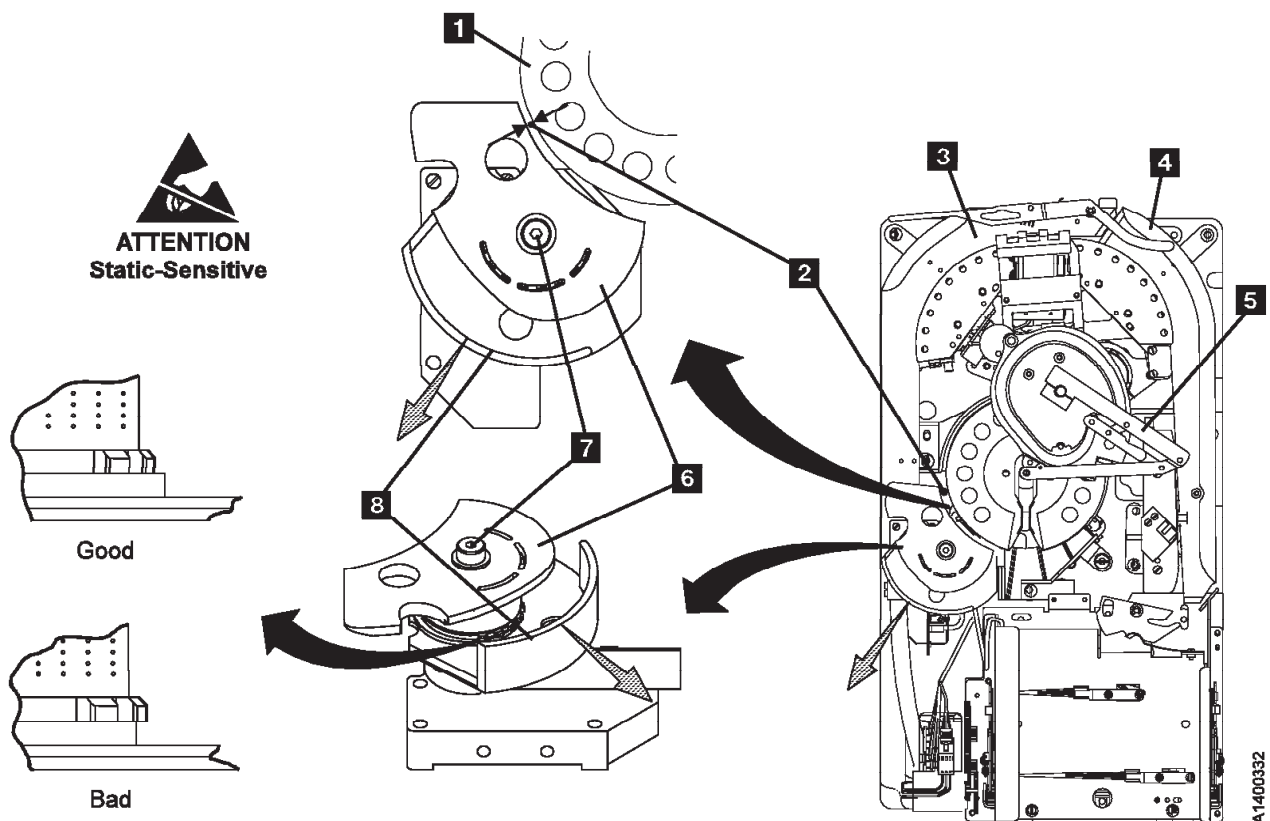

Figure 10-56. Tension Transducer Plastic Shield
2. See Figure 10-56.
See Figure 10-56 on page 10-82.
3. Ensure that the first four teeth on the lower ceramic guide do not extend beyond the top edge of the inner hub of the black plastic guide **8**. See the **Good** and **Bad** illustrations in Figure 10-56 on page 10-82.
- b. Move the lower black plastic guide **8** outward along a line that runs from the center of the pantocam through the center of the tension transducer. See the grey shaded arrows in Figure 10-56 on page 10-82.
Note: You should be able to move the lower black plastic guide so that all or most of the ceramic teeth do not extend beyond the top edge of the inner hub of the black plastic guide. See the **Good** and **Bad** illustrations in Figure 10-56 on page 10-82. The most important area is the first four teeth that the leader block will pass on a load operation.
- h. Check again to ensure that the teeth on the lower ceramic guide do not extend beyond the top edge of the inner hub of the black plastic guide. See the **Good** and **Bad** illustrations in Figure 10-56 on page 10-82.